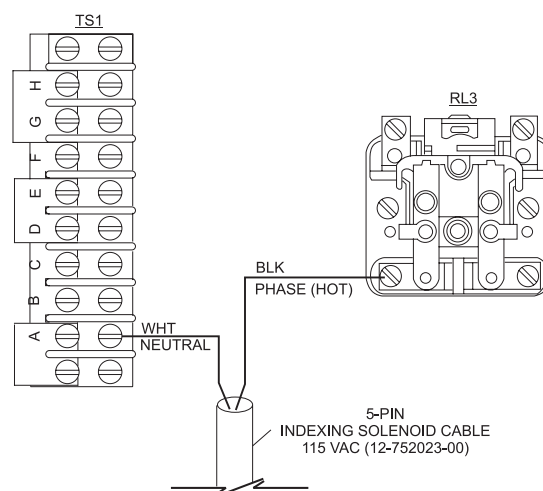

Figure 7
6. Attach the fork terminal connected to the white wire to terminal B on TS 1. Refer to *Figure 7*.